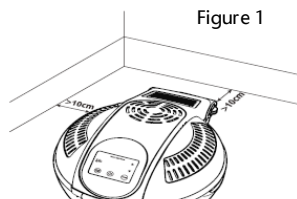

Figure 1
3. Place the appliance on a flat, horizontal and stable surface (make sure surface is heat-resistant). Place away from walls and other appliances. Leave approximately 4 inches of space from nearby objects. (See Figure 1)